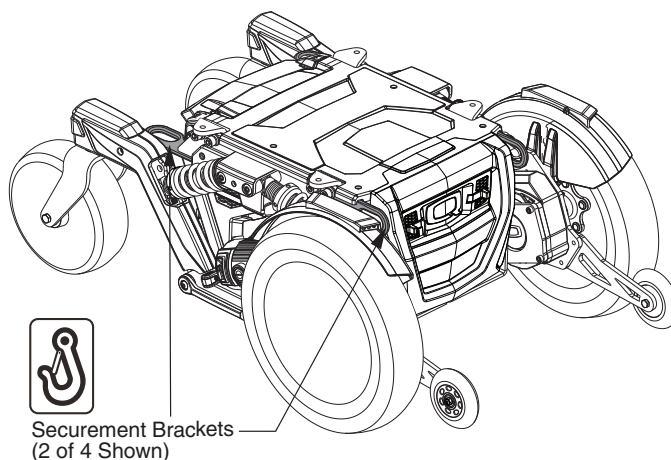

Figure 8. Transit System Securement Brackets
- Attach the four tie-down straps to only designated, labeled transit securement points indicated by anchor symbols on the power chair. **See figures 8 and 9.** Tighten the straps to sufficiently remove all slack.